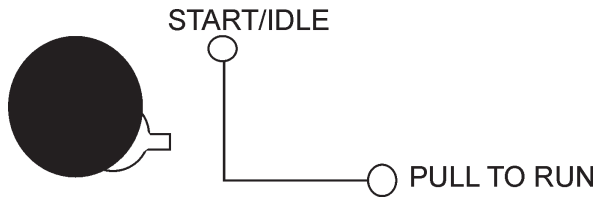

Figure 24. Throttle Lever (High Speed)
5. Pull the throttle lever (Figure 24) and turn to the right to increase engine speed.